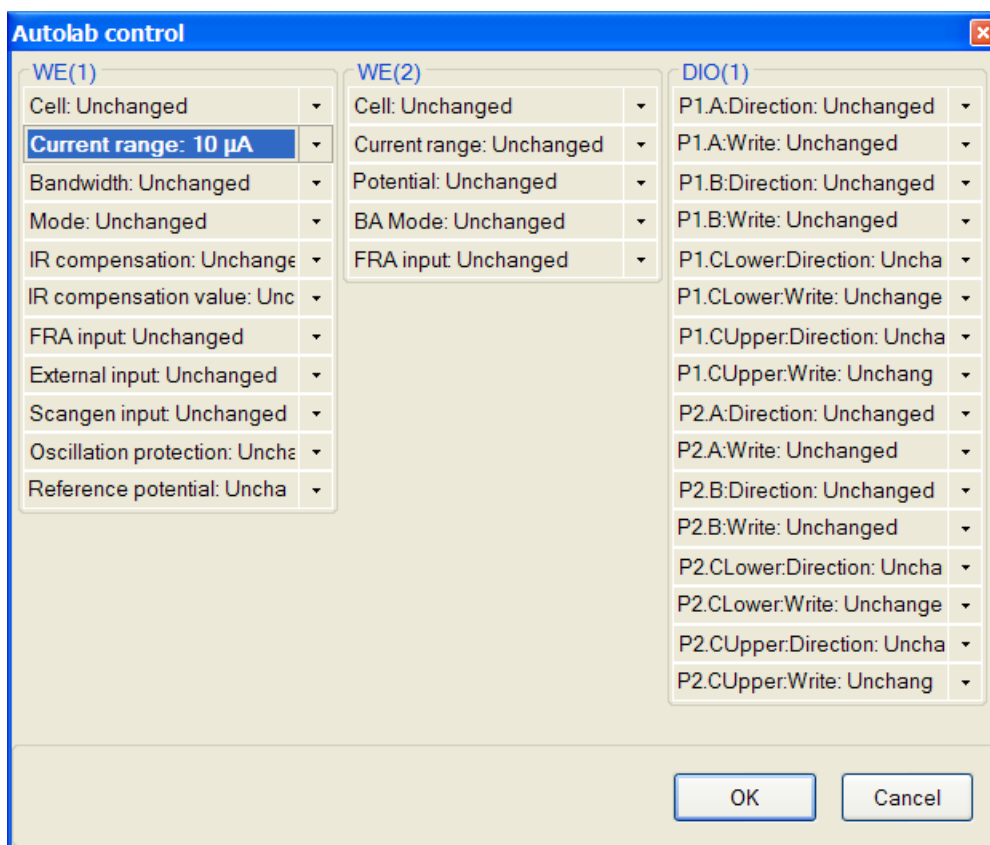

Figure 302 – The changes in the Autolab control command are highlighted
To change a setting, select the new value from a drop-down list. Figure 302 illustrates the change of one of the hardware settings. Using the drop-down lists, the active current range for the WE(1) can be set to 10 μ A.